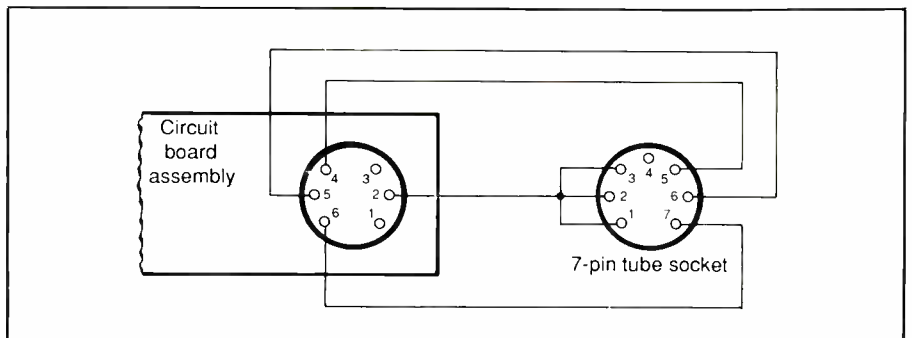

Fig. 7. Wiring details for connecting from circuit-board assembly to sensor's front-panel-mounted seven-pin tube socket.
Following Fig. 7, plug one end of these wires into the pins 2, 4, 5 and 6 holes in the circuit-board assembly for the sensor. Solder all four wires into place. (Pins 1 and 3 and pins 4 and 6 are connected together inside the sensor.) When the project is finally assembled and the sensor plugged into its socket, sensor pins 4, 5 and 6 plug into socket pins 5, 6 and 7, with socket pin 4 unoccupied.
lugs of the tube socket, referring to Fig. 7. Wire 2 from the board goes to lugs 1, 2 and 3 of the socket, wire 4 to lug 5 of the socket, wire 5 to lug 6 of the socket and wire 6 to lug 7 of the socket. This done, connect and solder the free ends of the wires coming from the R10 location on the circuit board to the lugs of the panel-mounted potentiometer.
(1) Check the power source and output voltage of the regulator to be sure that +4.8 to +5.2 volts is being delivered to the circuit. The regulator requires at least 7 volts at its IN lead to properly provide a +5 volt regulated source. Normal load current seen by the regulator is about 170 milliamperes. Should this current be excessive due to a wiring error or defective component, the regulator protects itself by shutting down.
(2) Check the sensor to be sure that the heater is operating. Do this by measuring the potential between pins 2 and 5 of the sensor, which should be 5 volts. Make sure the sensor is wired to the board in accordance with Fig. 7. You can tell if the heater of the sensor is operating by feel; if you note that the body of the sensor is warm to the touch when it has been on for a few minutes, it is working properly.
(3) Check the voltage across R1. When the project is first turned on after being off for some time, the reading across R1 will increase from zero to over 1 or 2 volts, and then slowly decrease to a relatively stable
level of less than 1 volt. If no voltage is obtained across *R1*, check that both pins 4 and 6 of the sensor (5 and 7 of the socket) are connected to the circuit in accordance with Fig. 7.